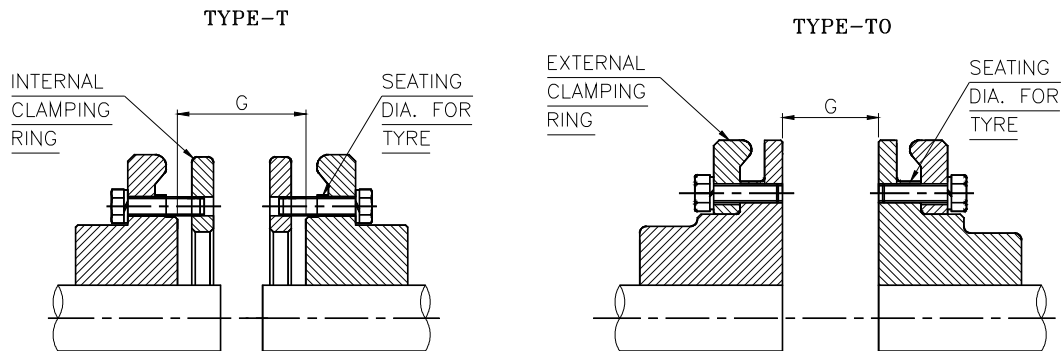

Fig. 2
1. Mount the hubs on respective shafts with keys such that the shaft ends are flush with inner face of the hub & tighten the set screw over the keys. Bring both the coupling hubs (along with equipments) closer so as to maintain gap 'G' as shown in fig.2. In case of spacer type couplings, the gap 'G' is equal to the spacer length (spacer length is normally equal to the distance between shaft ends of the equipments) refer fig. 3c on page no 11. Refer Dimension 'G' given in table A1 & A2 respectively on Page no. 14 & 15.